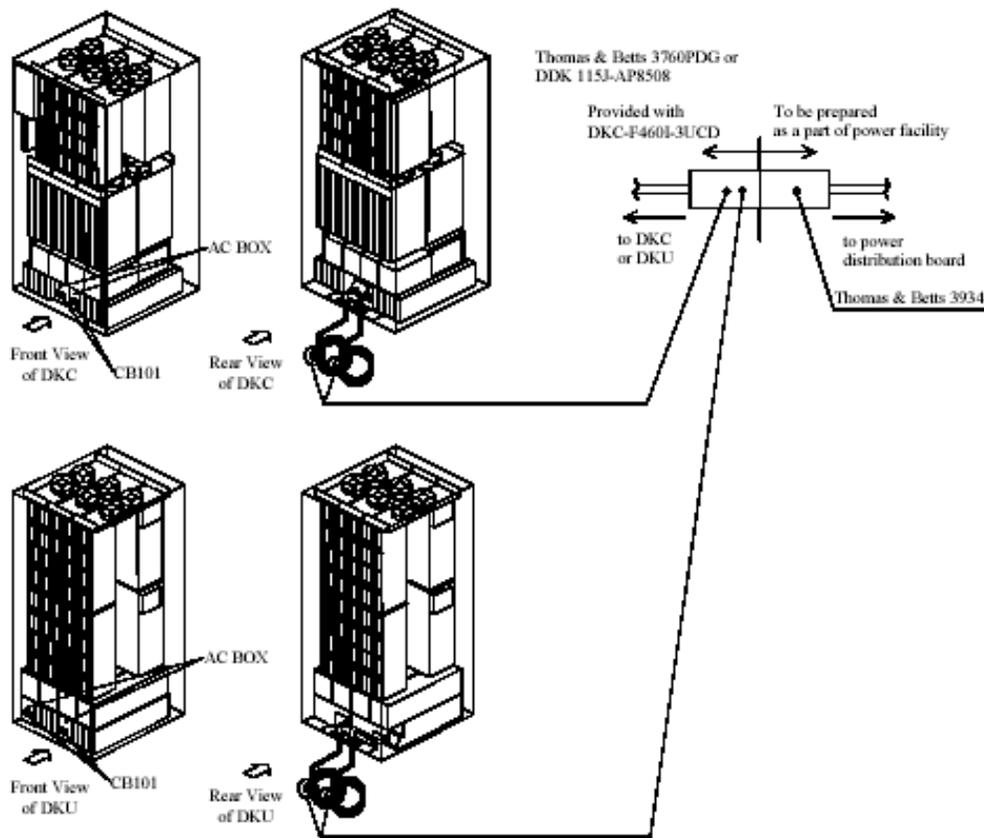

Figure 4.8 Three-Phase 30-Amp Model for USA
Figure 4.8 illustrates the power plugs for a three-phase ST9990V (USA). The DKC has two (2) main disconnect devices (two main breaker CB101s for dual power lines), so that AC power of the unit can be supplied from the separate power distribution board with two (2) power supply cords. Similarly, each of the DKU-R1, DKU-R2, DKU-L1, and DKUL2 also has two main disconnect devices.
**Connection of Power Supply Cord.** The unit has two (2) power supply cords with attachment plug type Thomas & Betts 3760PDG or DDK 115J-AP8508. Make sure to prepare the following socket receptacles and power cords between the power distribution board of the building and the attachment plugs for the unit: